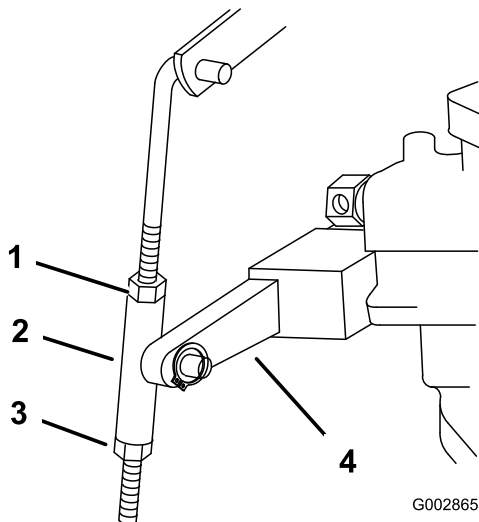

Figure 34
4. Loosen top and bottom jam nuts at pump arm neutral adjustment sleeve (Figure 34).
5. Push down on Pump Arm until Sleeve contacts bottom nut (Figure 34). Wheel should now be rotating slowly in reverse.
6. Turn bottom nut up slowly, moving sleeve and pump arm up, until wheel stops rotating (Figure 34).
7. Turn top nut down against sleeve and tighten to lock the adjustment (Figure 34).